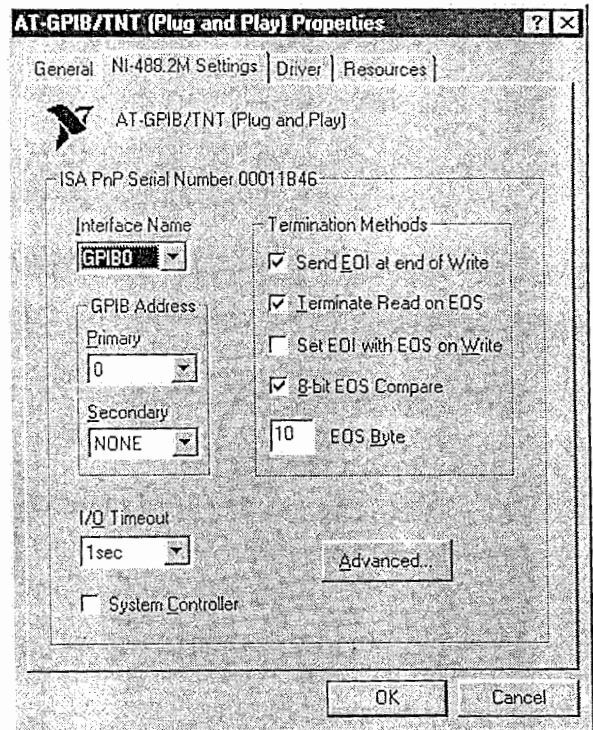

Figure 6-11. AT-GPIB/TNT Properties Window.
3. Select the **Properties** button to display the AT-GPIB/TNT Properties window. See Figure 6-11.
4. Set the NI-488 2M Settings as shown in Figure 6-11.